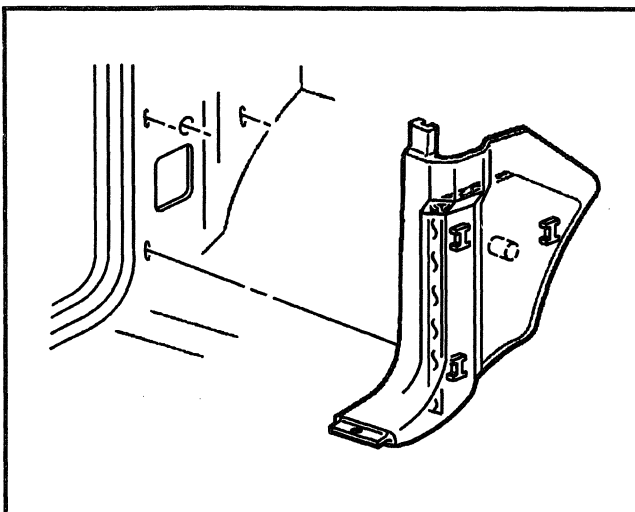

Figure 14—Hinge Pillar Trim Panel
Remove or Disconnect (Figures 14 through 25)
7. Left and right hinge pillar trim panels (Figure 14).